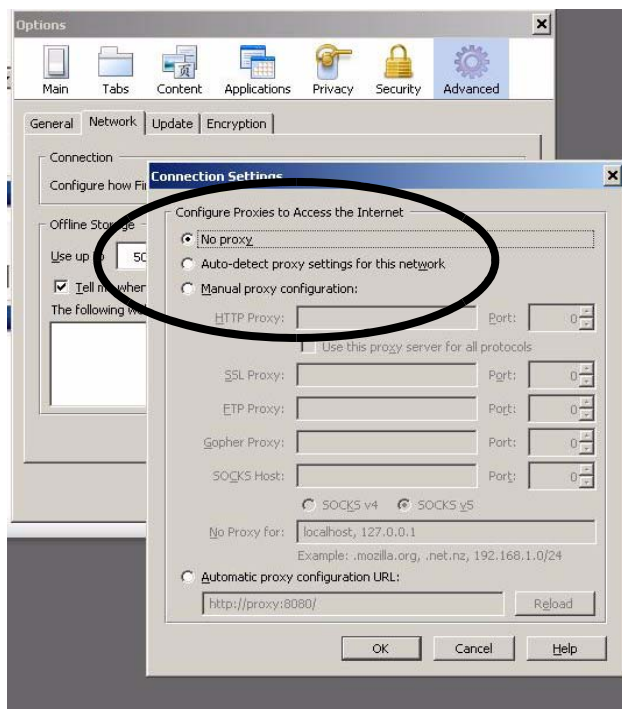

FIG. 28. Turn Off Proxy Setting (Firefox only)
2. *Applies to Firefox only:* To operate in a ProMIX 2KS network with Firefox, you must turn off the Proxy setting on your browser. In your Firefox browser, go to Tools>Options>Advanced>Network tab>Connection Settings. Click “No proxy.” See FIG. 28.